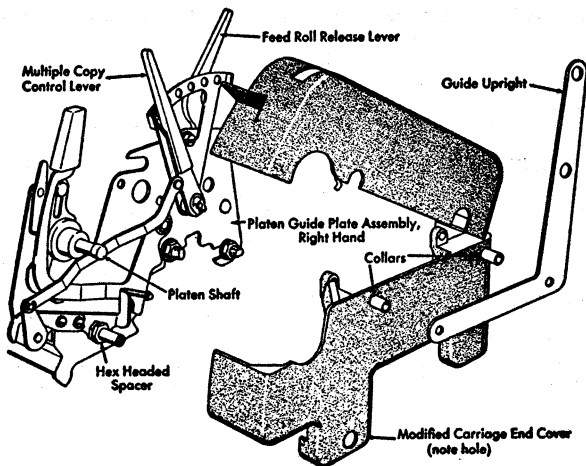

Figure 1. Standard Carriage, End View
1. Remove the right hand platen knob. Do not remove any of the spacers between this knob and the platen core (Figure 1).
3. Remove the screw which retains the eccentric nut used for positioning the right hand platen adjusting plate. Replace this screw with the hex headed spacer (Figure 1).
5. Mount the modified right hand carriage end cover and the guide upright. Using the two long screws, their collars and the short screw, mount the frame assembly on the right hand carriage end plate. The short screw fits into the hex-headed spacer (Figures 1 and 2).